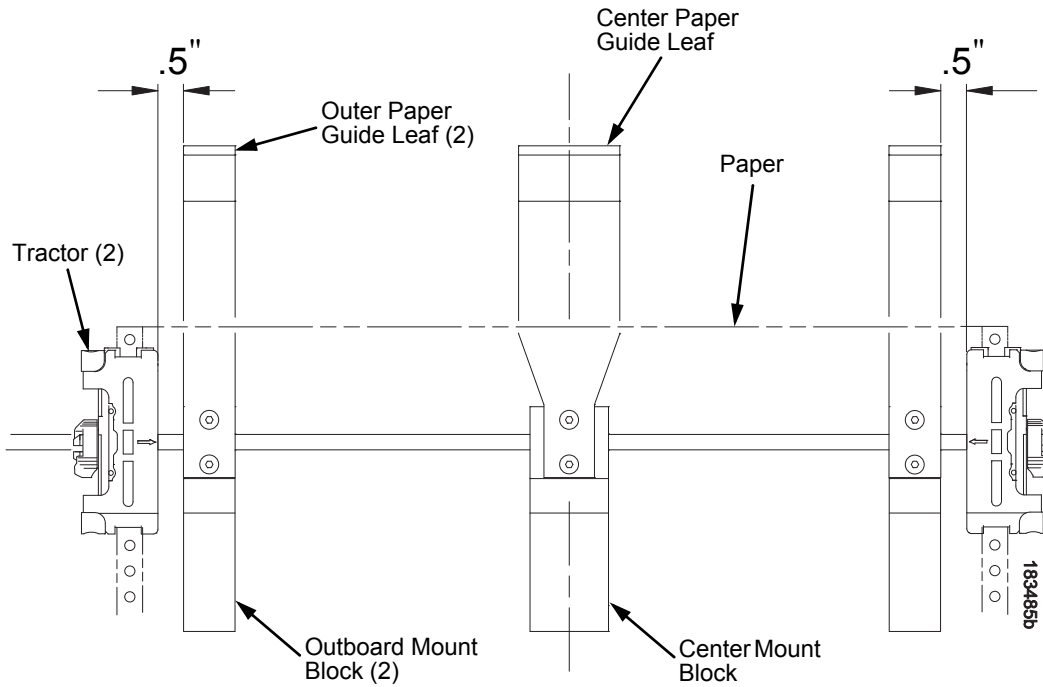

Figure 55. Adjusting Paper Guide Leaves
4. Slide the left outboard mount block so that the left outer paper guide leaf is .5 inches from the left tractor. (See Figure 55).